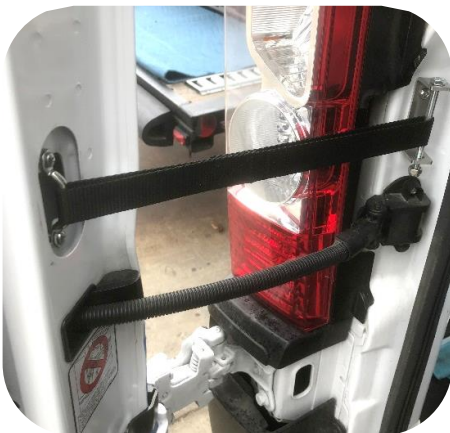

Figure 16: Installed Door Stop
24. Door strap should now look like Figure 16.